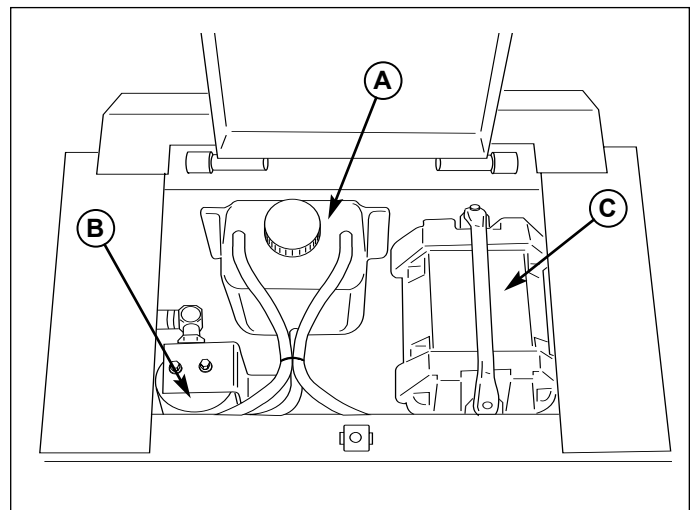

Figure 15. Checking Hydraulic Oil Level
2. Look at the oil reservoir (A, Figure 15) and observe the oil level. The oil level should never be above the MAX. HOT OIL LEVEL line.